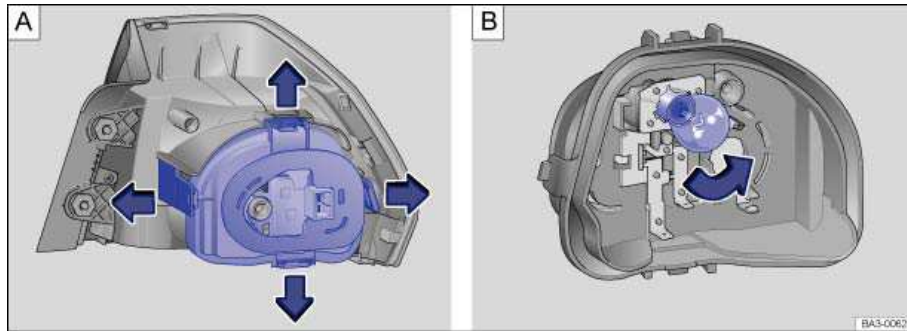

Fig. 224 A: Removing bulb socket assembly. B: Removing the light bulbs.
7. Release the bulb socket assembly from the locking tabs ⇒ fig. 224 A (arrows) and remove the bulb socket assembly from the taillight assembly.